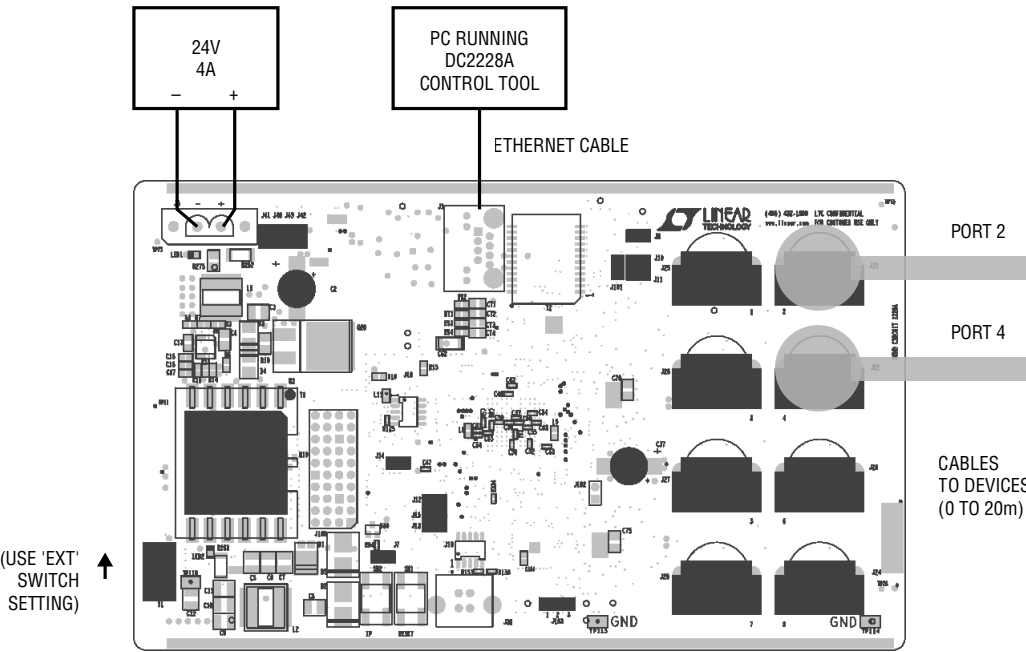

Figure 2. Alternate Set-Up Using Power Supply and Direct Ethernet Connection
- a. For operation using a direct Ethernet connection not involving a LAN, refer to the *Alternate Configuration for Fixed IP Address* section and Figure 2.